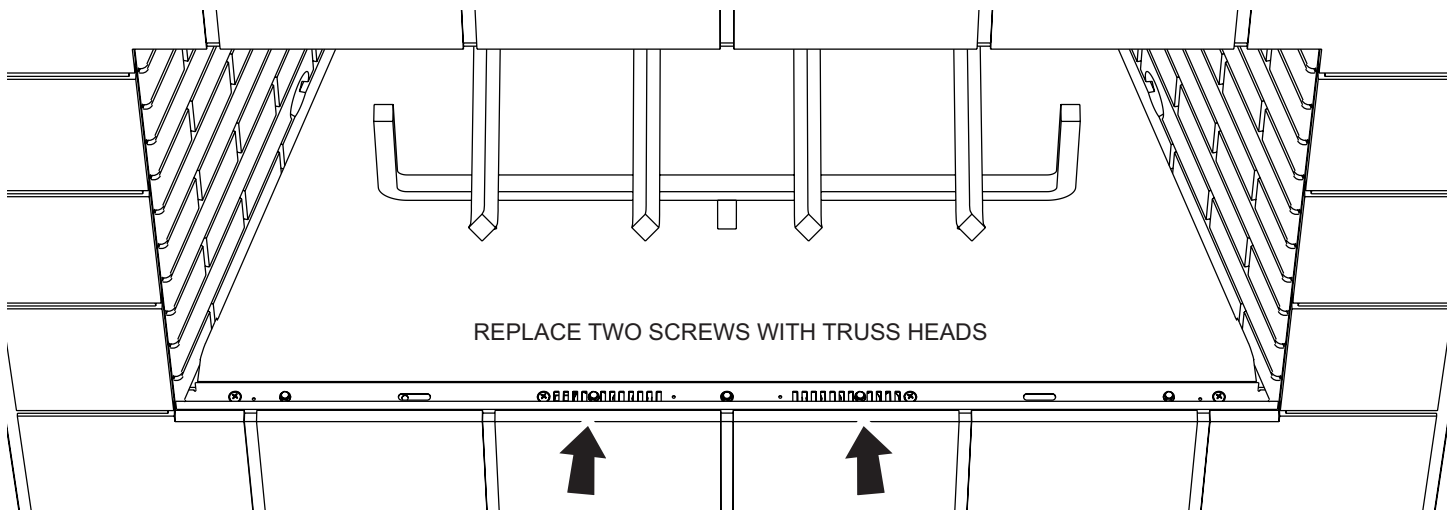

Figure 3
3. Using a 5/16" hex driver and Phillips screwdriver, remove and replace each Hex-Head Screw in **Figure 3** with a #10 Truss-Head Screw from the hardware pack (two total). Only use a hand driver to install the Truss-Head Screws to prevent stripping the holes.